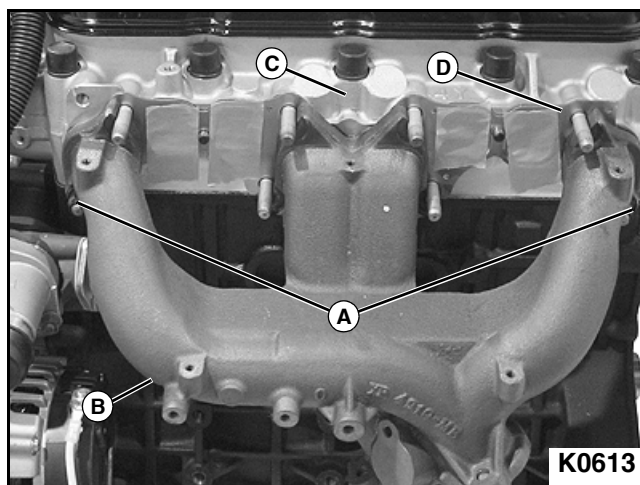

Figure 3-76
2. Remove two exhaust manifold flange nuts (A) and remove exhaust manifold (B) from cylinder head (C). **See Figure 3-76.**
3. Remove intake/exhaust manifold gasket (D) from cylinder head. Close all openings.